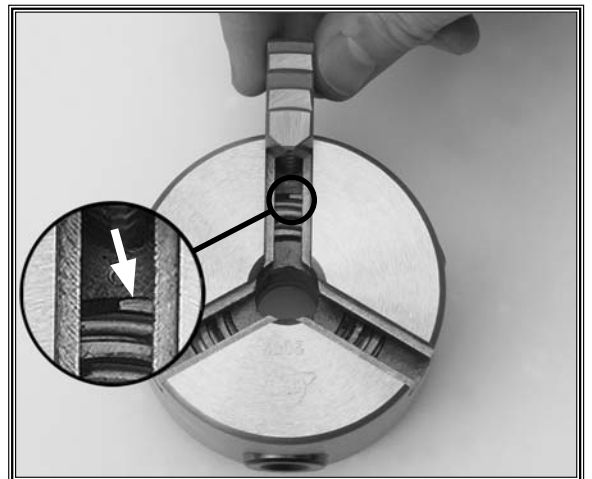

Figure 9. Lead thread and Jaw # 1.
4. Turn the chuck key clockwise until you find the lead thread (see **Figure 9**).
5. Locate the alternate jaws 1, 2, and 3, and insert jaw #1 into the channel that is showing the lead thread (see **Figure 9**).